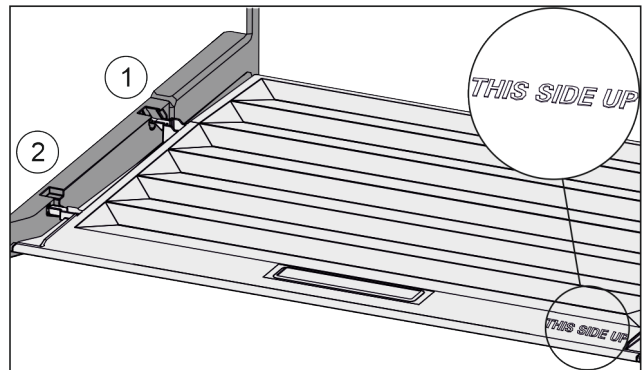

Fig. 92
- ▶ Insert the lip of the cover over the opening of the rear bracket Fig. 92 (1) and click into place Fig. 92 (2).